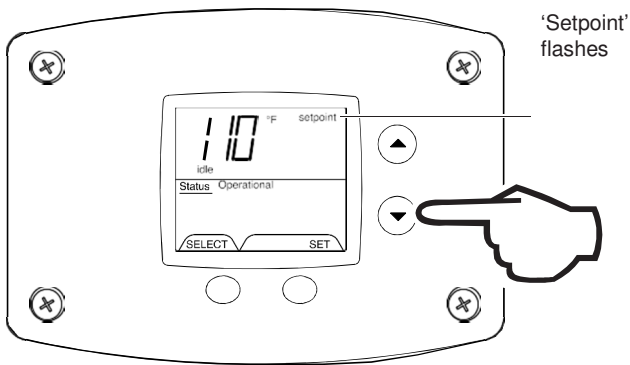

Fig. 20
2. 'Setpoint' indicator begins flashing in the display after pressing 'Temperature Down' button (Fig.20).